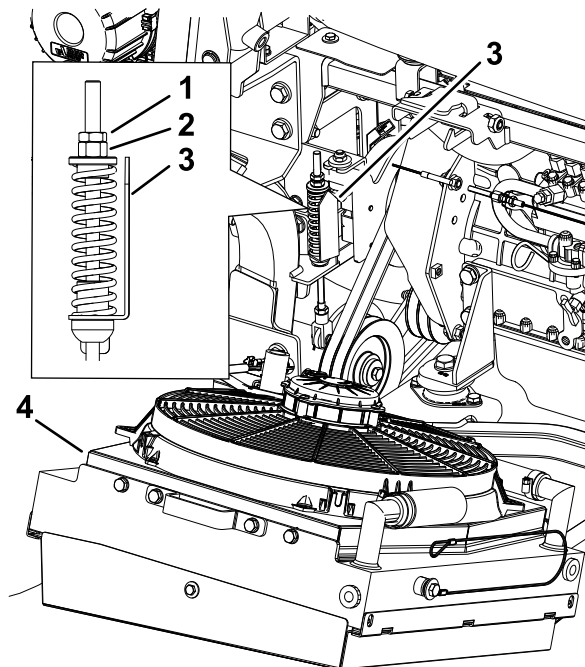

Figure 77
5. If needed, rotate the nut for the idler-pulley tensioner until the tension-indicator arrow aligns with the outer surface of the washer (Figure 77).
1. Align the be PTO belts over the pulleys (Figure 77).
8. Move the idler pulley upward and remove the belts from the machine (Figure 77).